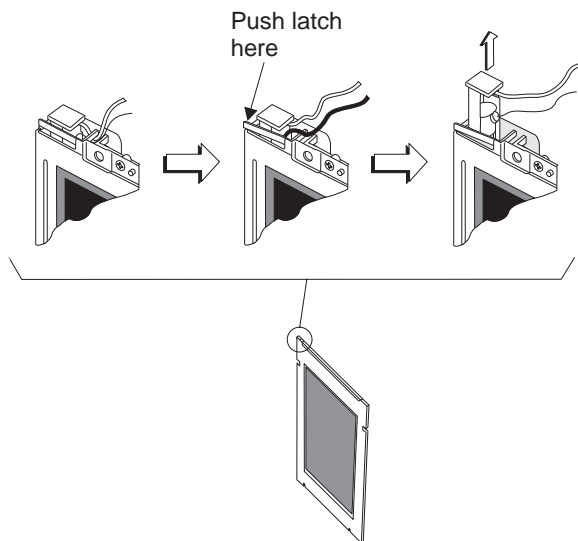

Figure 3-31. Removing 10.4 inch Color Backlight.
- 2 Free the backlight wires from the retainer tabs. See Figure 3-31.